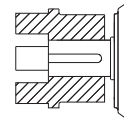

Figure 2. Place coupling flush with end of motor shaft and tighten setscrew.
Each sugar scoop includes the coupling for the motor and the coupling guard. The coupling guard must be mounted when the machine is in use. NORD's standard supplied coupling is the jaw type. Make sure the set screw is tightened after coupling is in place. The coupling hub or sprocket should be mounted per Figure 2.
2. Mount the coupling onto the motor. Place the coupling so that the inside face is flush with the end of the motor shaft (see Figure 2). The coupling should be heated prior to assembly, generally 250°F to 300°F (120°C to 150°C). ***DO NOT HEAT THE URETHANE SPIDER.** Once in place, tighten the setscrew into the motor shaft to lock coupling in place.